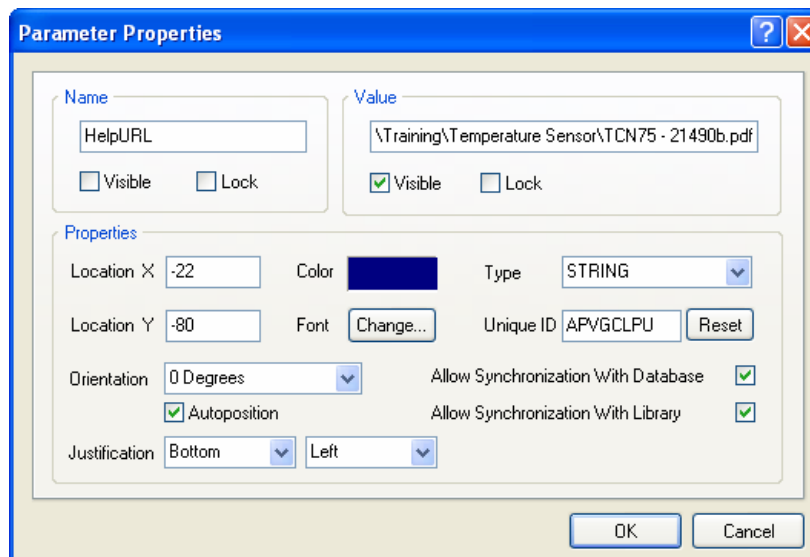

Figure 6. Add the `HelpURL` parameter to link the datasheet to the component.
7. Type a backslash ('\') character at the end of the string, then type in the name of the PDF, namely: `TCN75 - 21490b.pdf`, as shown in Figure 6.